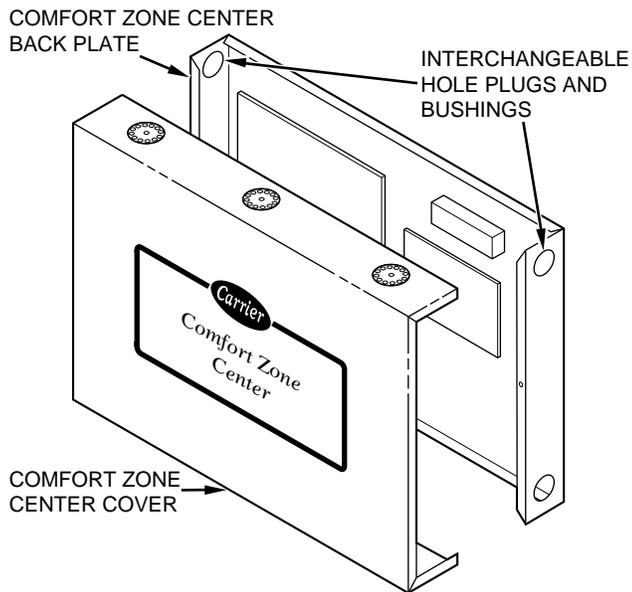

Fig. 5—Comfort Zone Center A93247
1. Separate Comfort Zone Center cover. (See Fig. 5)